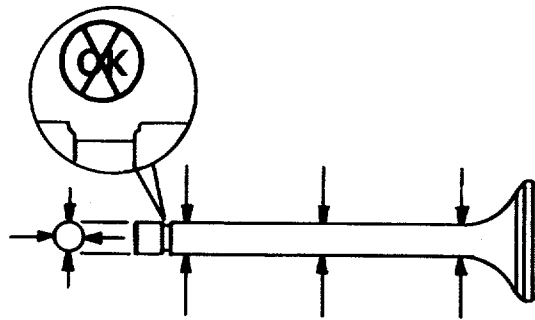

FIGURE 4-6. Valve Stem Inspection.
- (9) Check collet grooves for wear. If collet grooves show wear, as indicated in FIG. 4-6, discard the valve.
- (10) Measure valve stem outside diameter with micrometer. Verify diameter is between 0.4935 inch (12.535 mm) and 0.4951 inch (12.576 mm).